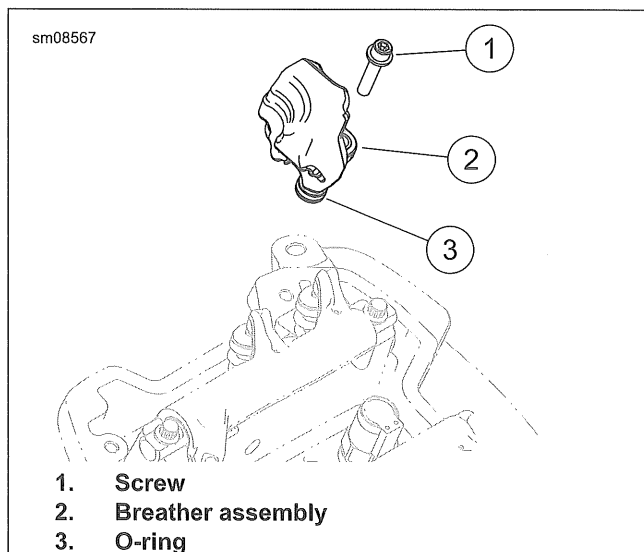

Figure 4-20. Breather
1. See Figure 4-20. Remove screw (1).
2. Remove breather assembly (2).
1. See Figure 4-20. Lubricate O-ring (3).
2. Install breather with screw (1). Tighten to 90–120 in-lbs (10.2–13.6 N·m).